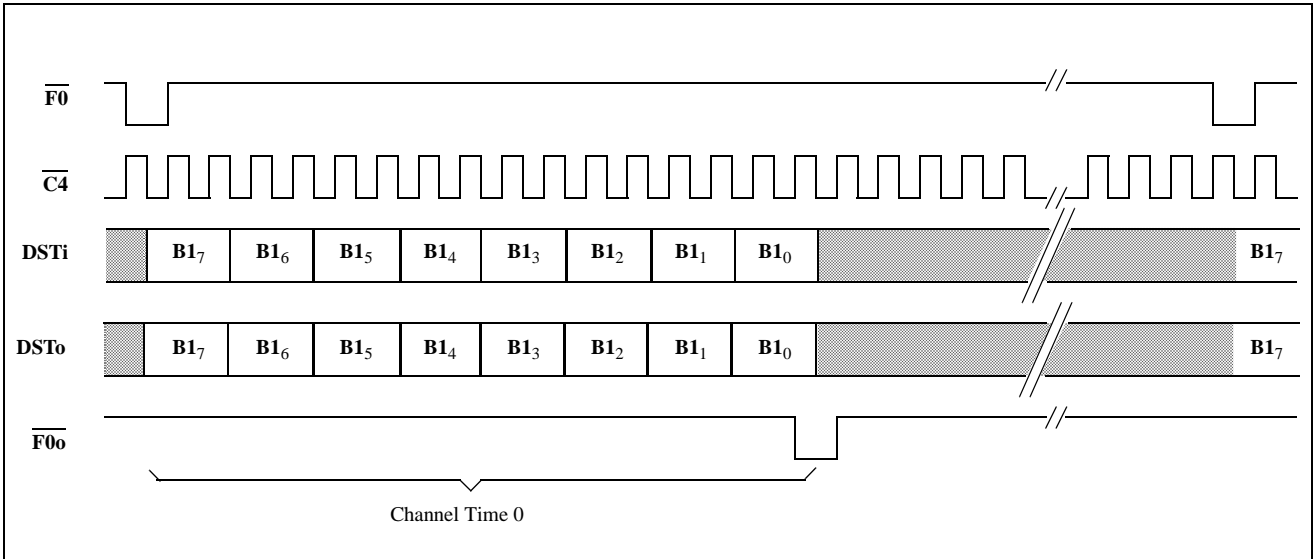
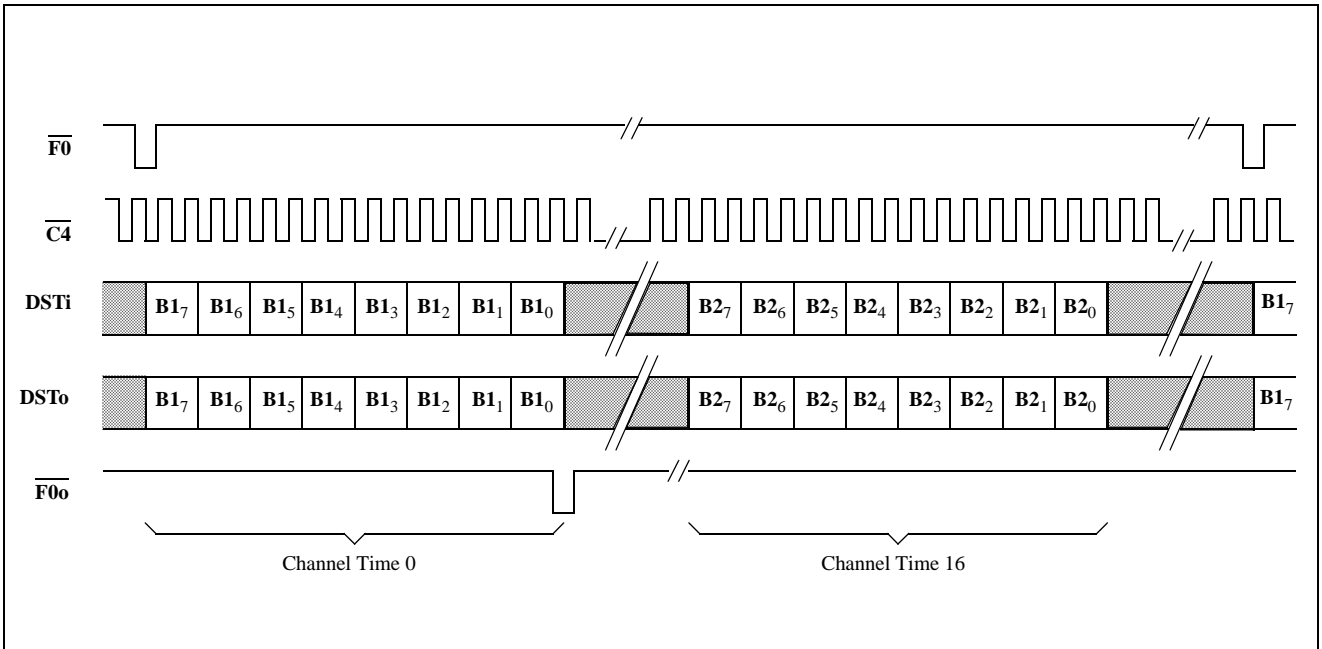
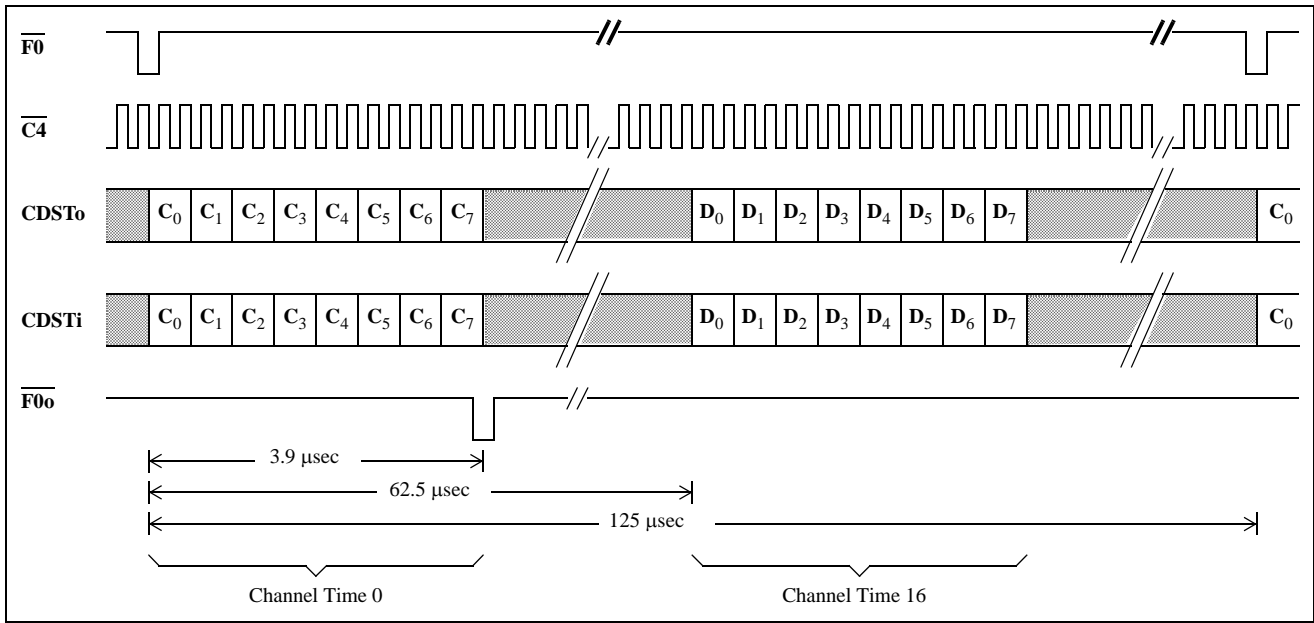
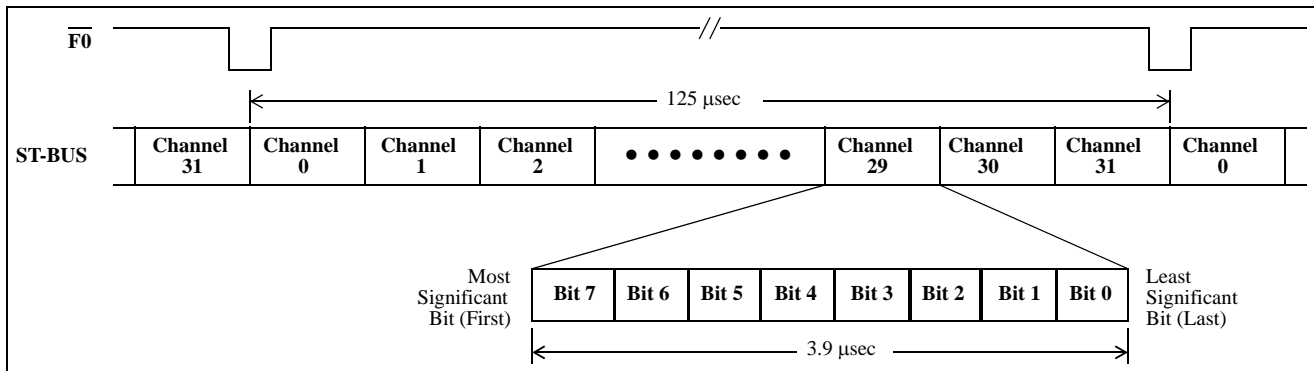

Figure 3 - DV Port - 80 kbit/s (Modes 2, 3, 6)
Figure 4 - DV Port - 160 kbit/s (Modes 2, 3, 6)
Figure 7 - CD Port (Modes 2,6)
Figure 9 - ST-BUS Format
In DIGITAL NETWORK (DN) mode there are three channels transferred by the DV and CD ports. They are the B, C and D channels. The B1 and B2 channels each have a bandwidth of 64 kbit/s and are used for carrying PCM encoded voice or data. These channels are always transmitted and received through the DV port (Figures 3, 4, 5, 6). The C-channel, having a bandwidth of 64 kbit/s, provides a means for the system to control the DNIC and for the DNIC to pass status information back to the system. The C-channel has a Housekeeping (HK) bit which is the only bit of the C-channel transmitted and received on the line. The 2B+D channel bits and the HK bit are double-buffered. The D-channel can be transmitted or received on the line with either an 8, 16 or 64 kbit/s bandwidth depending on the DNIC's mode of operation. Both the HK bit and the D-channel can be used for end-to-end signalling or low speed data transfer. In DUAL port mode the C and D channels are accessed via the CD port (Figure 7) while in SINGL port mode they are transferred through the DV port (Figures 5, 6) along with the B1 and B2 channels.
The DV port transfers data or PCM encoded voice to and from the line according to the particular mode selected by the mode select pins. The modes affecting the configuration of the DV port are MOD or DN and DUAL or SINGL. In DN mode the DV port operates as an ST-BUS at 2.048 Mbit/s with 32, 8 bit channels per frame as shown in Figure 9. In this mode the DV port channel configuration depends upon whether DUAL or SINGL port is selected. When DUAL port mode is used, the C and D channels are passed through the CD port and the B1 and B2 channels are passed through the DV port. At 80 kbit/s only one channel of the available 32 at the DV port is utilized, this being channel 0 which carries the B1-channel. This is shown in Figure 3. At 160 kbit/s, two channels are used, these being 0 and 16 carrying the B1 and B2 channels, respectively. This is shown in Figure 4. When SINGL port mode is used, channels B1, B2, C and D are all passed via the DV port and the CD port is disabled. See CD port description for an explanation of the C and D channels.
The CD port is composed of the C and D-Channels. The C-channel is used for transferring control and status information between the DNIC and the system. The D-channel is used for sending and receiving signalling information and lower speed data between the line and the system. In DN/DUAL mode the DNIC receives a C-channel on CDSTi while transmitting a C-channel on CDSTo. Fifteen channel times later (halfway through the frame) a D-channel is received on CDSTi while a D-channel is transmitted on CDSTo. This is shown in Figure 7. The order of the C and D bytes in DUAL port mode can be reversed by the mode select pins. See Table 1 for a listing of the byte orientations.